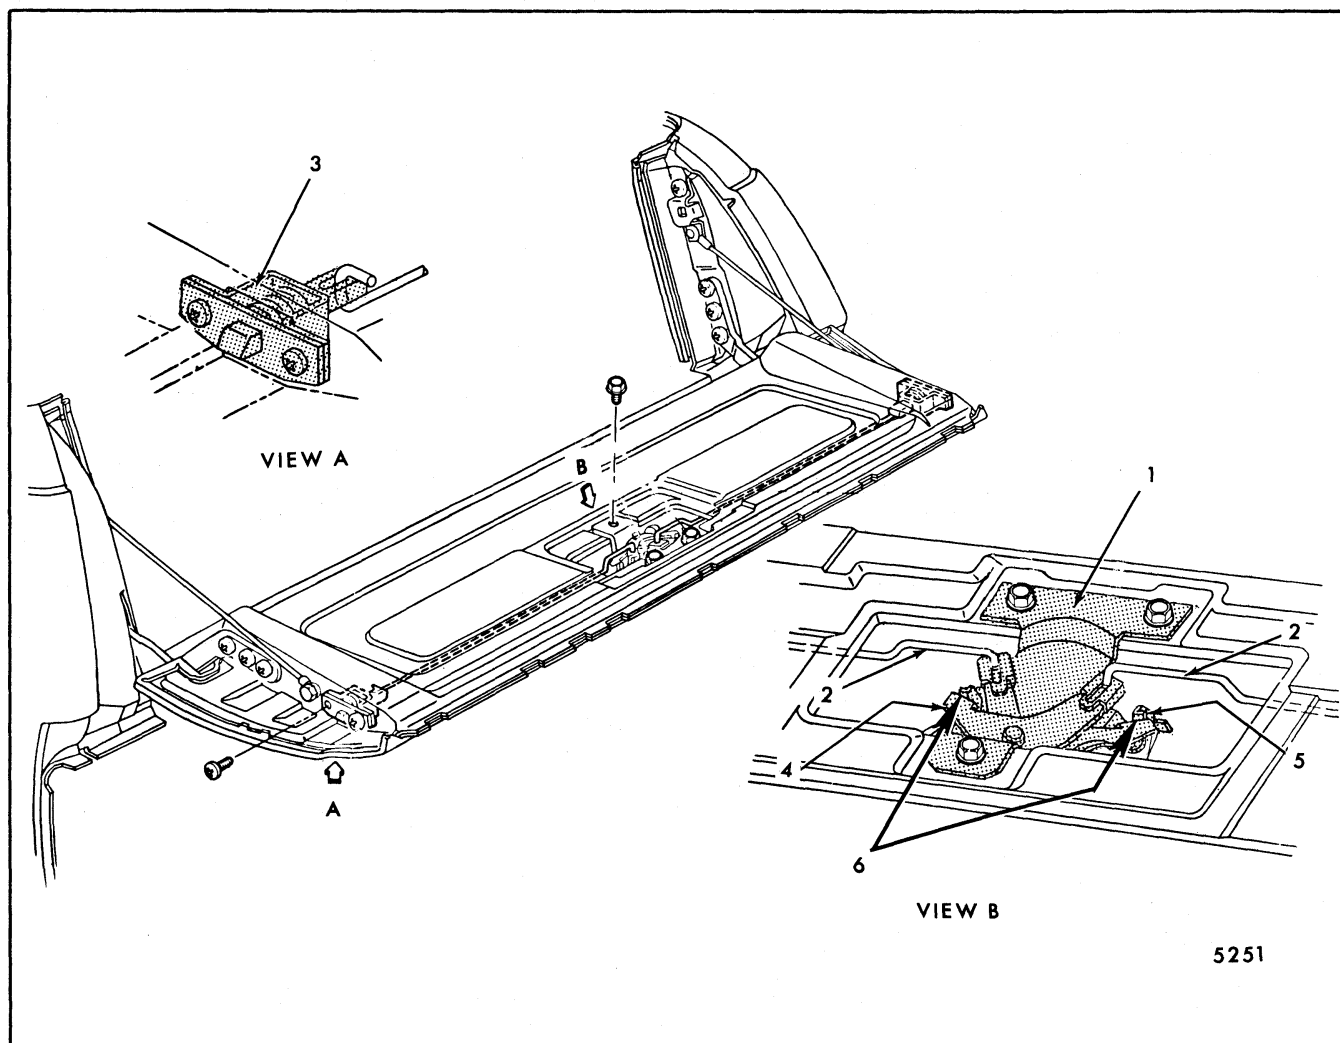

Fig. 7-109-Tailgate Hardware Installed
2. Disconnect remote control-to-latch rods at remote assembly by sliding rod attaching clips out of engagement (Fig. 7-109).
To assure simultaneous action of right and left latches, loosen remote control assembly bolts, position assembly so that remote arms contact latch rod rotors and tighten remote control bolts (Fig. 7-109).
2. Disengage remote control-to-latch rods at remote control assembly (Fig. 7-109).
from gate. Remove control rod from latch if required, as a bench operation (Fig. 7-109).